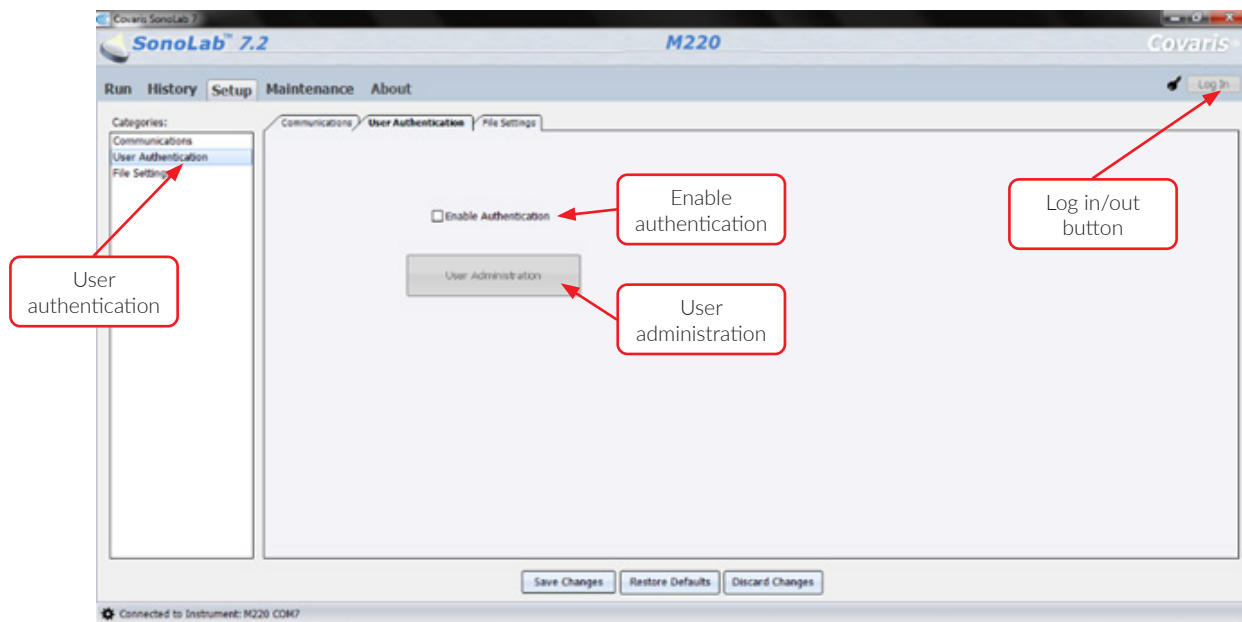

Figure 6.5 The User Authentication Tab
By selecting the User Authentication tab or category (See **Figure 6.5**), user can establish 3 levels of users and identify the user by means of a log in/out format.
- Click on the Enable Authentication (See **Figure 6.5**) check box. Enter user name “admin” and password “Sonolab”. Click OK to log in. Once logged in, an Administrator may change this password or create an alternate administrator-level user.
- Click the Log In button (See **Figure 6.5**). Enter the username and password provided by Administrator.
- Click the “User Administration” button (See **Figure 6.5**)